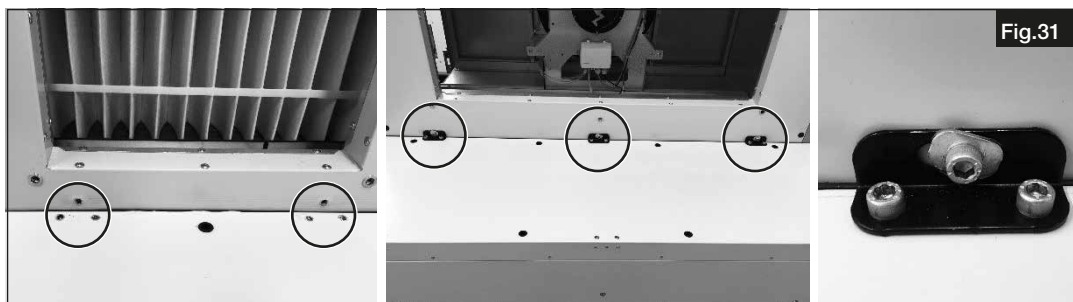

Fig.31
7. Mount the mounting bracket to the cooling register. Connect AIR1 unit to cooling register as follows (see Fig.31).